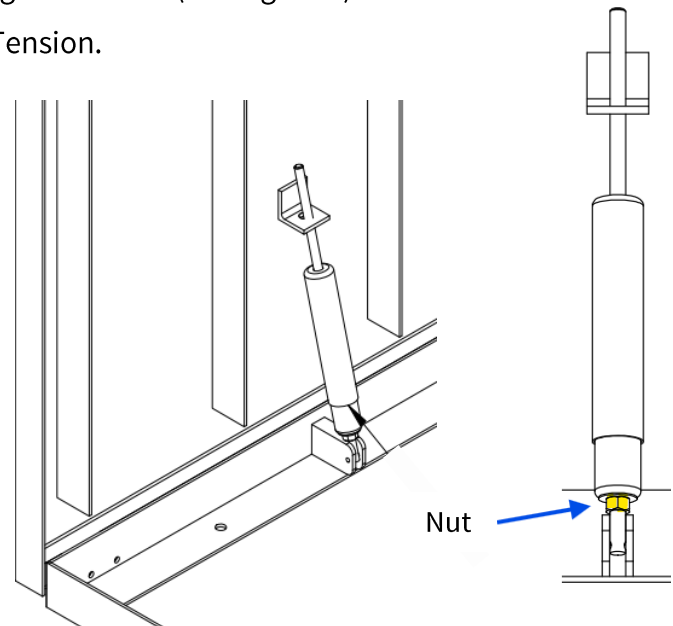

Figure 1
2. Locate the 1/2-inch nut at base of spring under tube (see Figure 1).